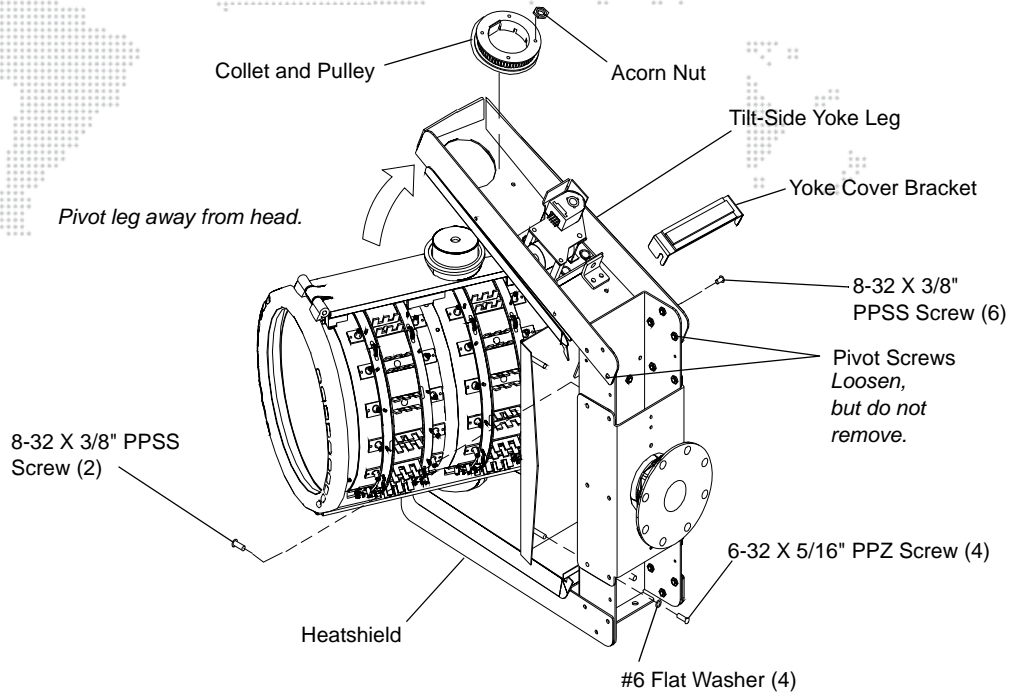

Figure 2-10: Separating VL5/VL5B Head and Yoke Assemblies
- a. At top yoke cross member, using #2 Phillips screwdriver, remove four 6-32 X 5/16" PPZ screws and four #6 lock washers securing heatshield to yoke cross member, and remove heatshield. **Figure 2-10.**